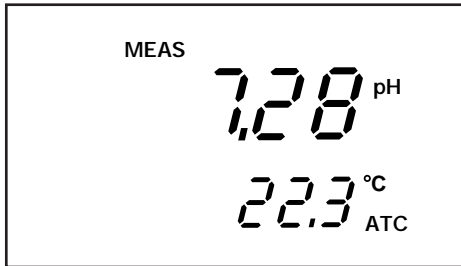

Figure 11
1. Press the **ON/OFF** key. All the LCD segments display for a few seconds. The LCD switches to the last mode the meter was turned **OFF** in when powered down from the key pad. —See Figure 11
1. Make sure the meter is **ON** and if necessary, press the **MODE** key to select pH mode. The pH indicator appears in the upper right hand corner of the display. —See Figure 11.